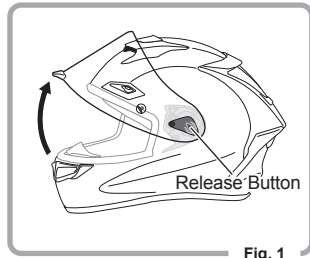

Fig. 1
- 1, Fully open the shield (Fig. 1)